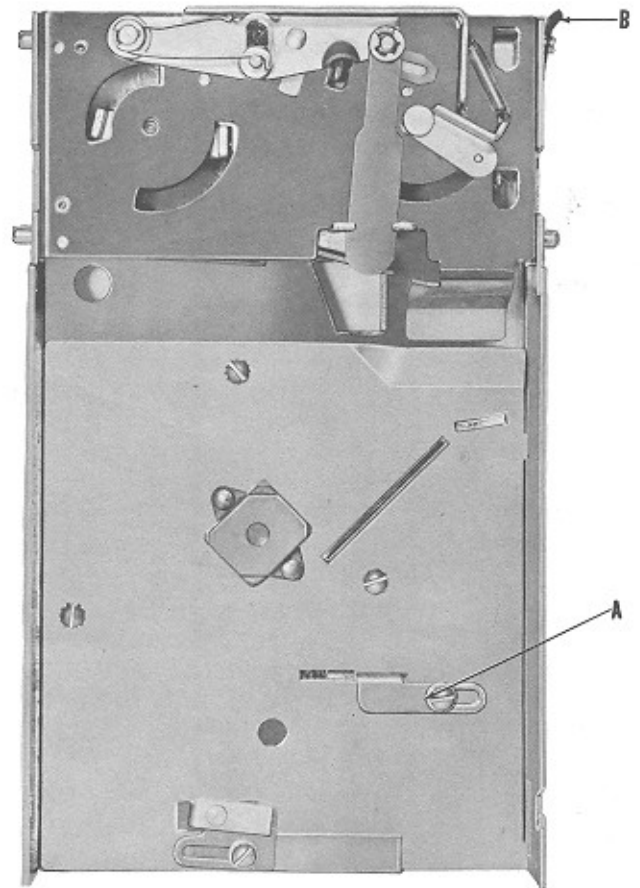

**FIG. 5—View of Accumulator**
- A. Insert a pointed tool into ear of wafer on center ratchet (J-Fig. 5) lift slightly, raising wafer pin from hole.
- B. Keep ratchet wheel from rotating and move wafer on center ratchet until pin drops into 8 play hole (F-Fig. 5) or 9 or 10 play holes (G-H Fig. 5).
- B. Keep ratchet wheel from rotating and move wafer on center ratchet until pin drops into 9 play hole (G-Fig. 5) 9 or 10 play hole (H-Fig. 5).
- C. Insert a pointed tool into ear of wafer upper ratchet (K-Fig. 5) lift slightly, raising wafer pin from hole.
- D. Keep ratchet wheel from rotating and move wafer on upper ratchet until pin drops into 4 play hole (B-Fig. 5).
- D. On upper ratchet, lift upper wafer (K-Fig. 5) until pin drops into 3 play hole (A-Fig. 5) or 4 play hole (B-Fig. 5).
- E. At the accumulator on the center ratchet, insert a pointed tool into ear of center wafer (J-Fig. 5) lift slightly, raising wafer pin out of hole. Keep ratchet wheel from rotating and move wafer on center ratchet until pin drops into 2 play hole (C-Fig. 5).
- F. On the upper ratchet, lift upper wafer (K-Fig. 5) slightly, raising wafer pin from hole and moving the wafer until the pin drops into the 5 play (D-Fig. 5) or 6 play (E-Fig. 5) hole.